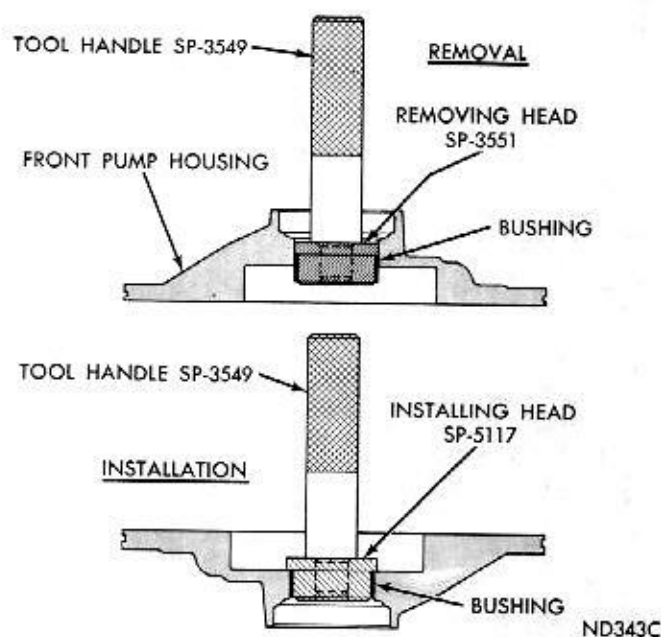
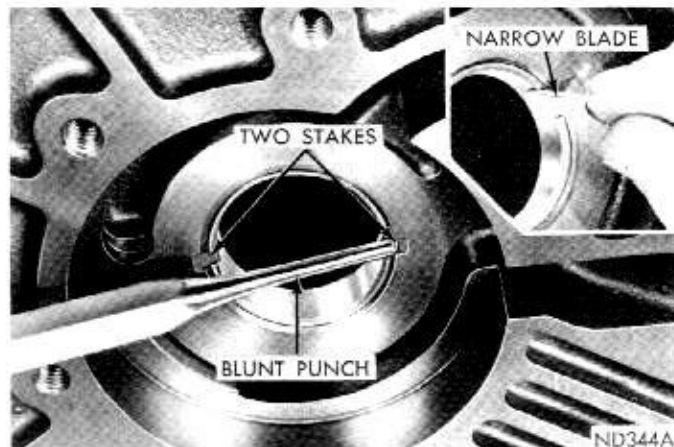

Fig. 46—Replacing Pump Bushing (A-904)
Fig. 47—Staking Pump Bushing (A-904)
(1) Place pump housing (seal face down) on a smooth firm surface.
(2) Place removing head, Tool SP-3551 in bushing and install handle, Tool SP-3549 in the removing head (Fig. 46).
(3) Drive bushing straight down and out of pump housing bore. Be careful not to cock tool in the bore.
(4) Position new bushing on installing head, Tool SP-5117.
(5) With pump housing on a smooth clean surface, start bushing and installing head in the bushing bore. Install handle, Tool SP-3549 in the installing head (Fig. 46).
(6) Drive bushing into housing until tool bottoms in the pump cavity. Be careful not to cock tool during installation.
(7) Stake bushing in place by using a blunt punch or similar tool (Fig. 47). A gentle tap at each stake slot location will suffice.
(8) Using a narrow-bladed knife or similar tool, remove high points or burrs around staked area (Fig. 47). Do not use a file or similar tool that will remove more metal than is necessary.